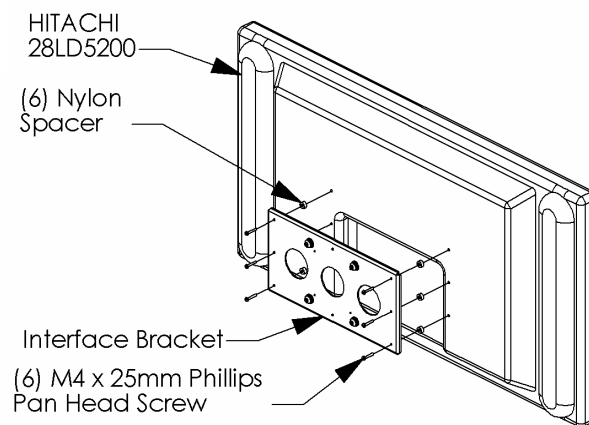

Figure 3
- 2a. Assemble six (6) M4 x 25mm Phillips pan head screws and six (6) Nylon spacers (see Figure 3).